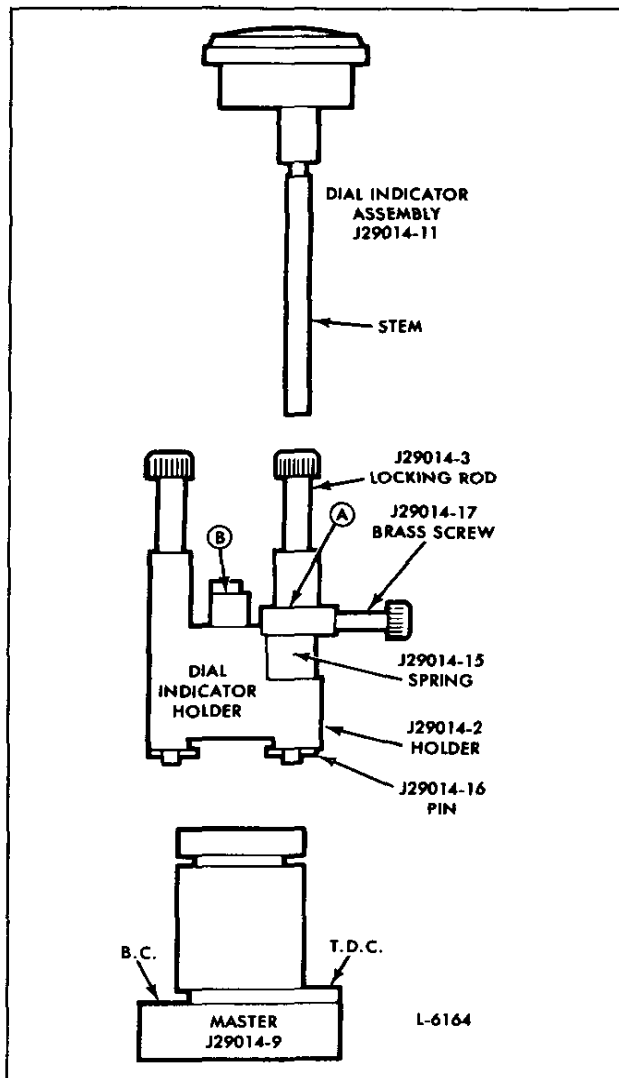

Fig. 4 - Injector Timing Gage
Injector timing gage J 29014-1 (Fig. 4) has been designed for timing the engine using the base circle method or the precision, top dead center timing procedure. When timing by the base circle method, use the black numbers on the dial face and the lower step of the master.
3. While rotating the dial indicator, (to clear position "B") push down to lowest position in the holder, position "A", Fig. 4, and lock into place with the brass screw.